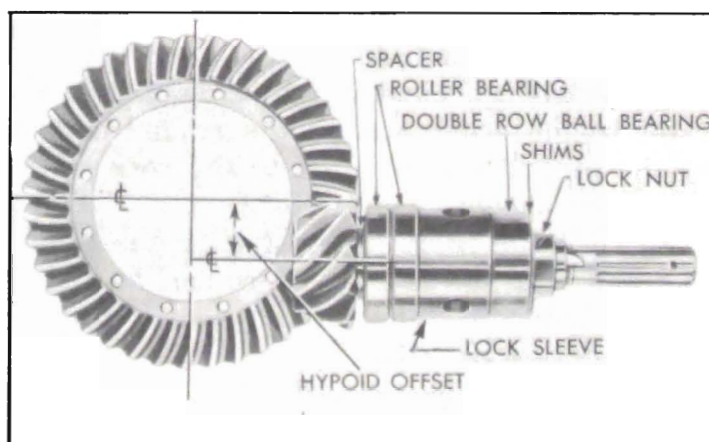

Figure 5-18—Gear Set with Bearings and Lock Sleeve—1949 Model
1. Install parts on pinion shaft in the following order: rear bearing spacer, rear bearing (roller), bearing lock sleeve with thick end toward spline, front bearing (ball) with shielded side toward spline. See figure 5-18. Press front bearing solidly against shoulder on pinion shaft, using a tube of proper size to bear against inner race only. NOTE: *Bearing may be brinnelled if driven into place.*